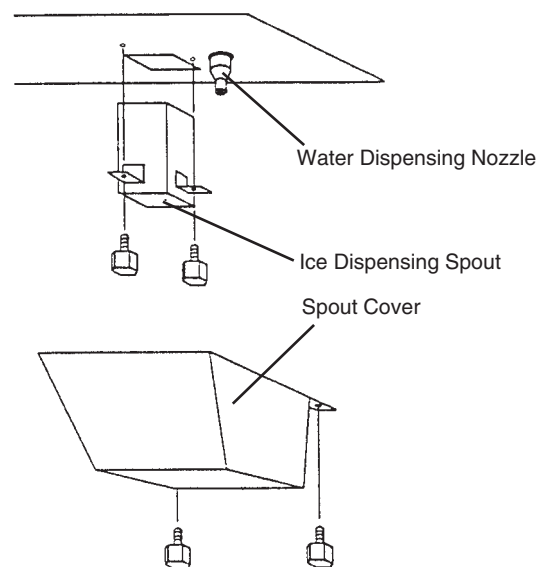

Fig. 8
- 8) Remove the spout cover, ice dispensing spout, and water dispensing nozzle. See Fig. 8. Also remove the ice guide, drain pipe holder, and drain pipe from the storage bin.